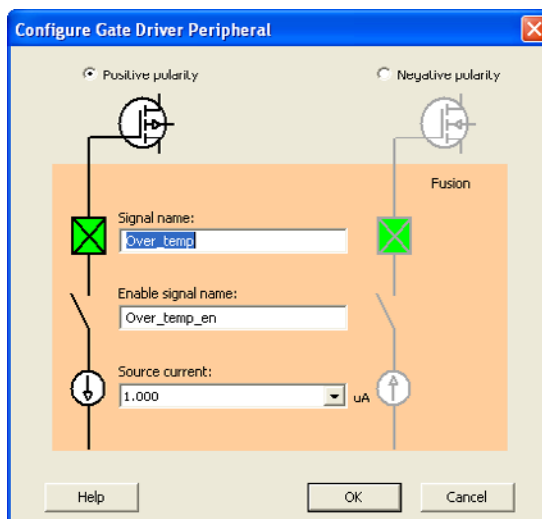

Figure 2-6 · Configure Gate Driver Peripheral Window
15. Enter the following information (as shown in Figure 2-6 on page 13):